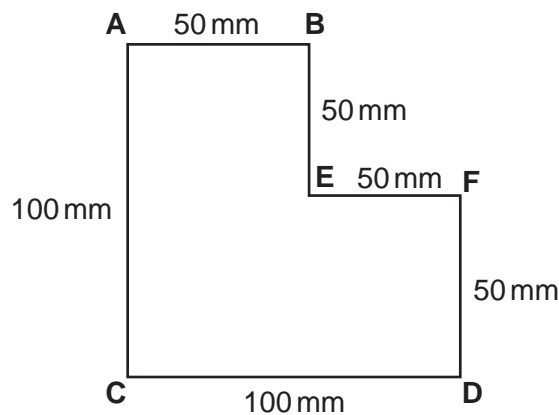

Fig. 2.1
- (i) A piece of card about 130 mm square. Candidates will be required to cut out an L-shaped piece from the card using the measurements specified in Fig. 2.1;